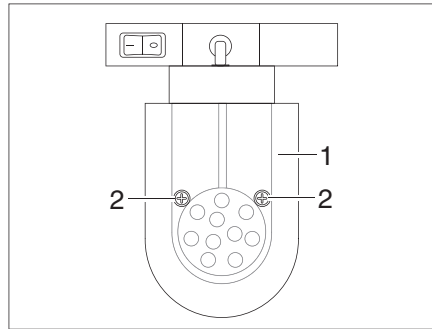

Fig. 398 LED spotlight (movable)
- Loosen the fixing screws (Fig. 398,2).
- Remove the lamp glass cover (Fig. 398,1) carefully.